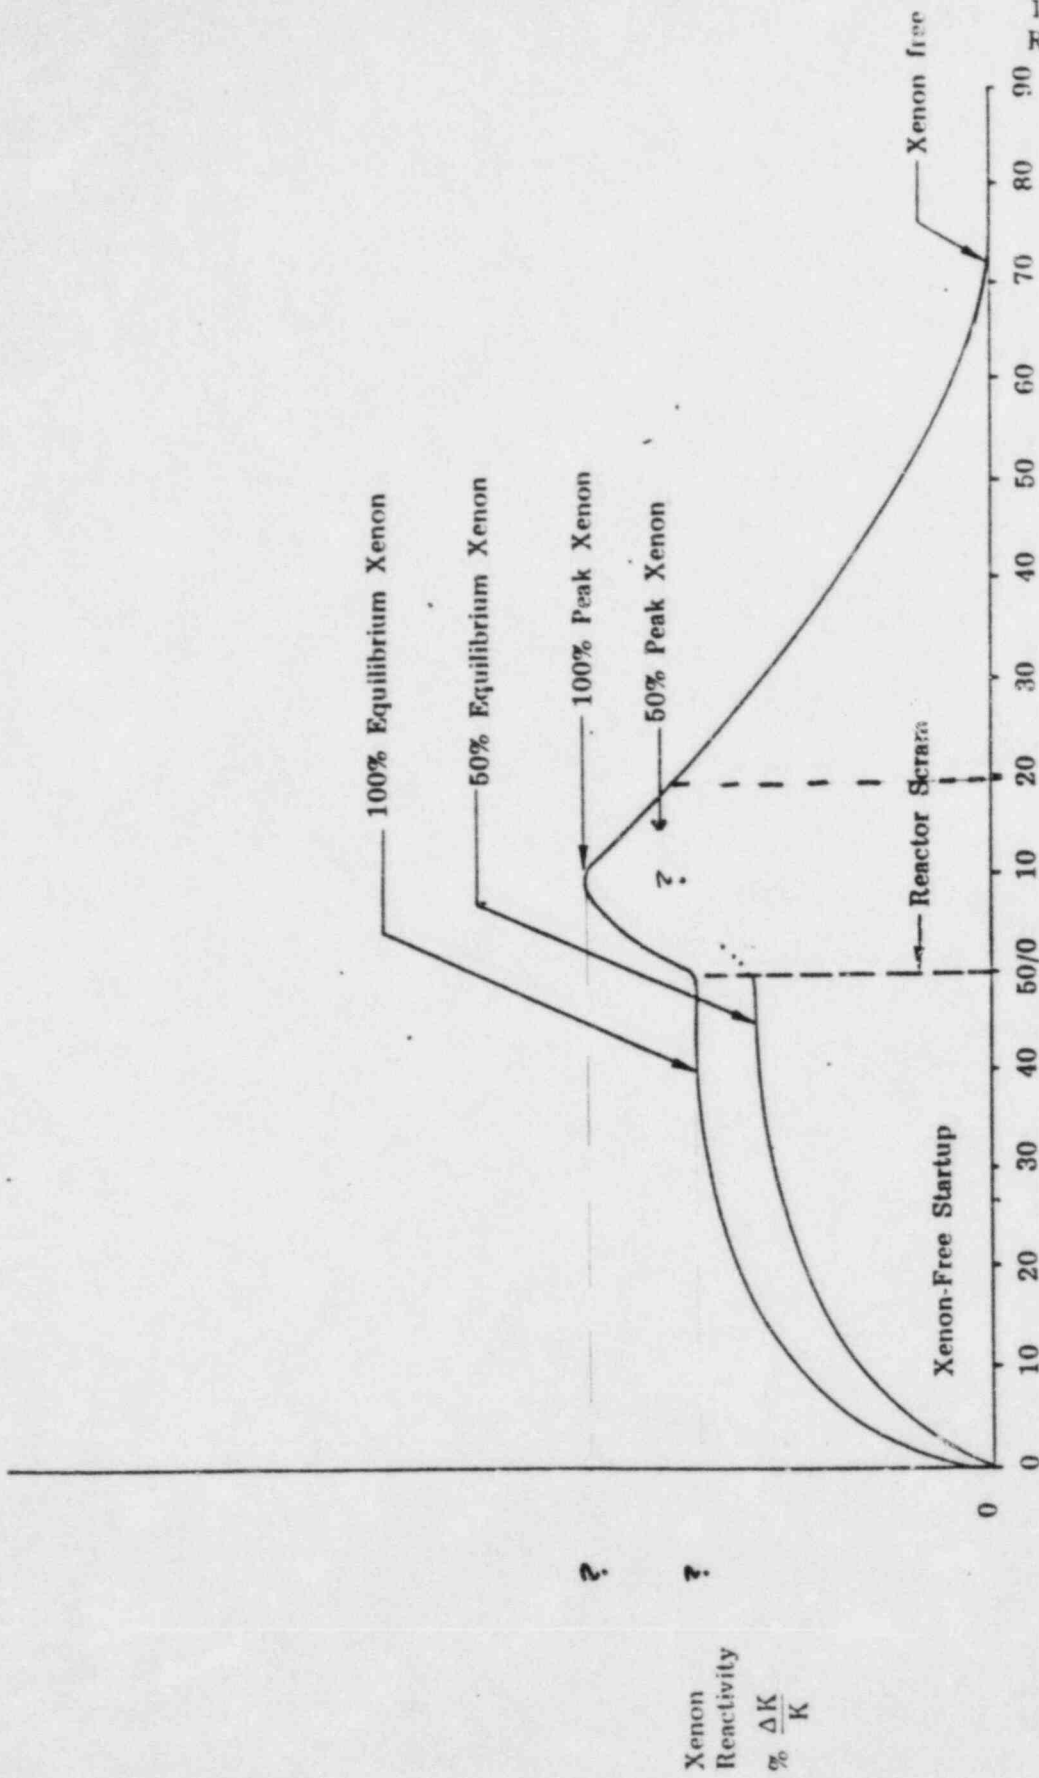

FIGURE 1.6 XENON REACTIVITY VS. POWER LEVEL AND TIME
- 1.6 Answer the following with regard to figure 1.6, which illustrates xenon reactivity vs power level and time.
- c. At approximately 20 hours after the scram the reactor is restarted and power is returned to 25% until a new equilibrium xenon level is established. On figure 1.6, draw the xenon transient response to this power change. (1.0)